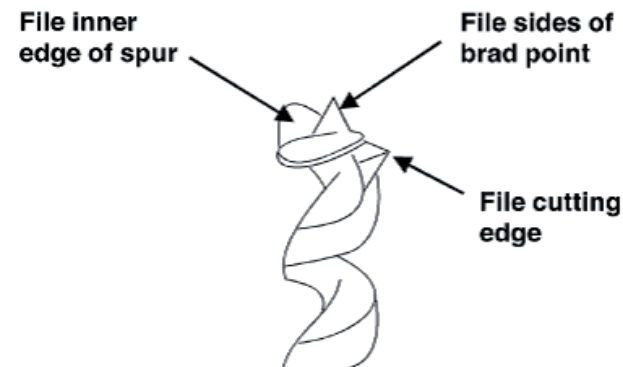

FIGURE 7
1. Sharpen the bit by using a small, smooth file, *following the original shape of the bit*. File the inside edge of the spur, the sides of the brad point, and the cutting edge inwards toward the flute of the bit. See Figure 7.